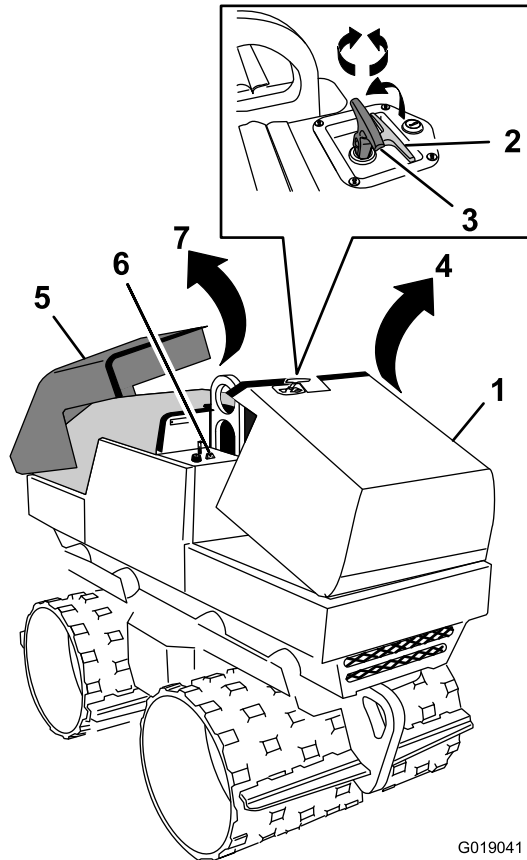

Figure 25
1. At the forward hood, pivot the latch handle for the hood to the vertical position (Figure 25).
2. Rotate the latch handle clockwise (Figure 25).
3. Grasp the latch handle tightly, and pull up firmly to unseat the hood from the hood clips (Figure 25).
4. Rotate the hood up (Figure 25).
2. Pull up firmly on the hood to unseat it from the hood clips (Figure 25).
3. Rotate the hood up (Figure 25).
2. Rotate the hood down (Figure 25).
1. Grasp the latch handle, and rotate the hood down (Figure 25).
3. Rotate the latch handle counterclockwise (Figure 25).
4. Pivot the handle down to the stowed position (Figure 25).